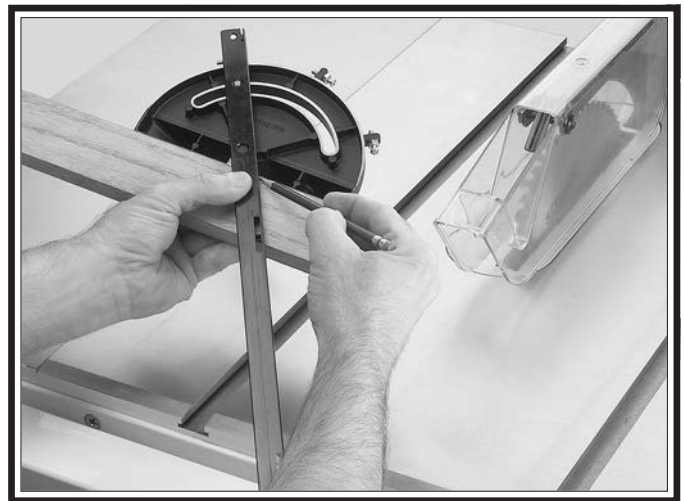

Figure 69. Example of marking miter line.
4. Place face of miter gauge against edge of workpiece and place bar across face of workpiece. Use bar as a guide to mark your cut, as shown in **Figure 69**.